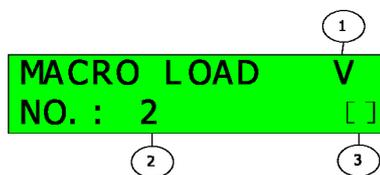
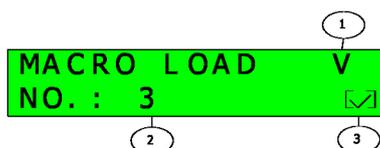

Figure 8:Load macro menu
Figure 9:Load macro menu
- a) Unlock the panel if the panel locked (The LED displays as above figure 8).
- b) Move cursor to ① to select operation format (as above way).
- c) Move cursor to ② to select Macro number.
- d) Move cursor to ③ to load Macro 3 content to the device, the LED display is as the following figure 9.